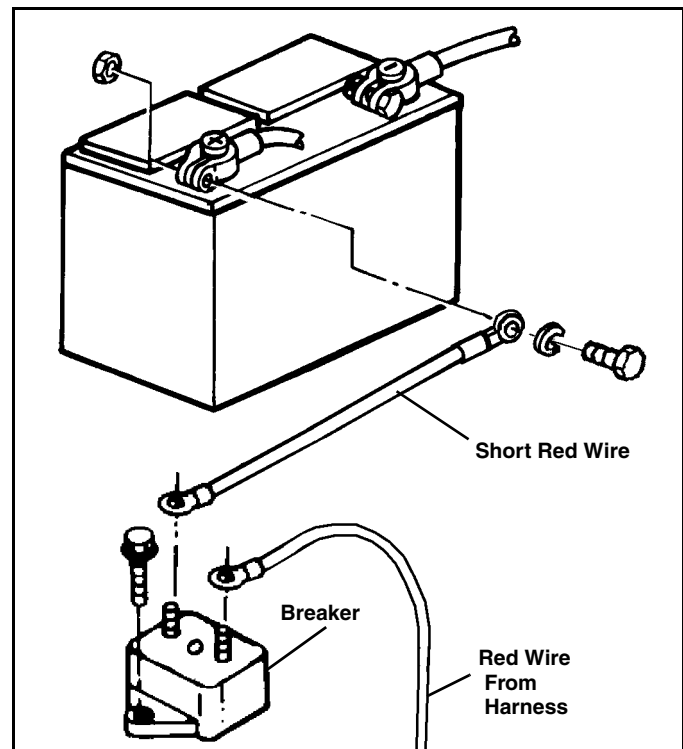

Figure 4-4
8. Locate short red wire (#96102362) with two ring terminals. Attach the small ring terminal to the copper colored post marked BAT on the breaker. Attach the other, large ring terminal to the battery positive terminal. (See Figure 4-4)